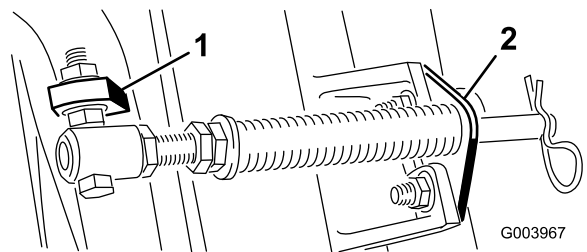

Figure 6
D. Mount the rod bracket to the cutting unit tabs with the carriage bolts and nuts (Figure 6). Also, on the #4 cutting unit, mount the left hand hose guide to the front of the cutting unit tabs when reinstalling the rod bracket (Figure 7).
- C. Mount the spring tube capscrew to the opposite tab on the carrier frame and secure with the flange nut. The capscrew head is to be positioned to the outer side of the tab as shown in Figure 6.